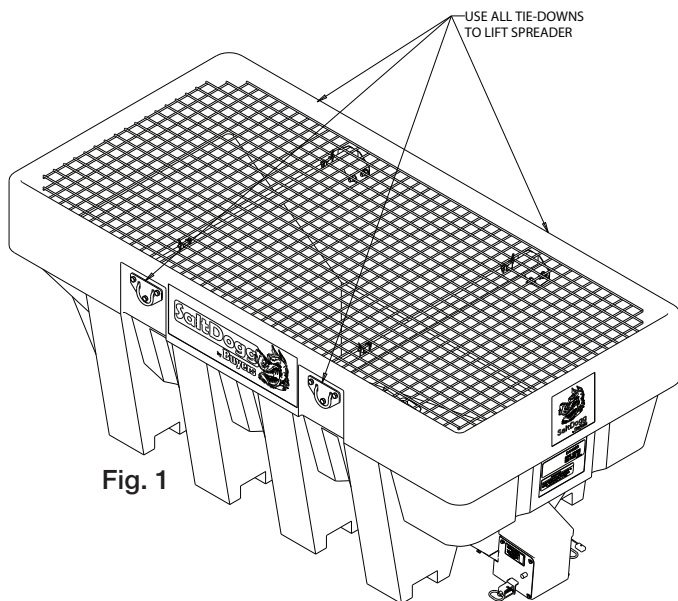

Fig. 1
- C. Lift spreader using tie downs (fig. 1), or using fork lift.